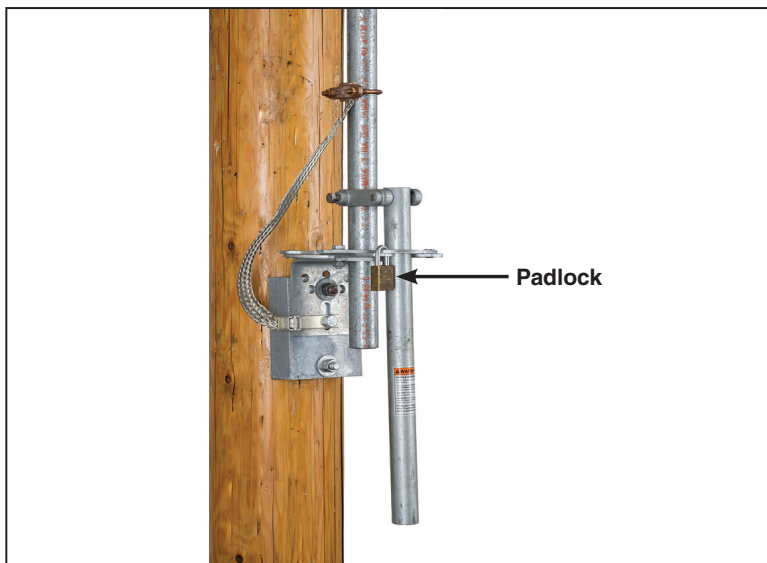

Figure 28. Remove the padlock(s).
- (a) Remove the padlock(s) from the hasps on the operating-handle assembly. See Figure 28.